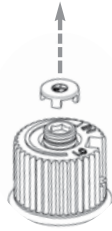

Fig. 1
- 11) Remove the black protection cap by hand from the hi-low knob (Fig.1).